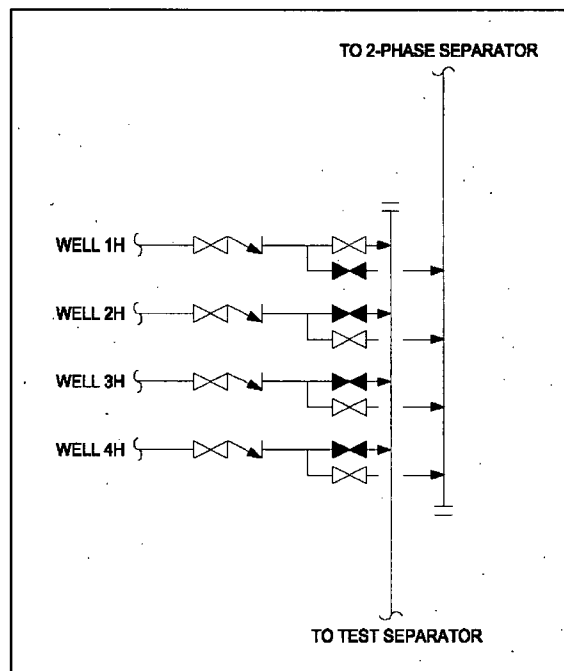

Figure 1: Test/Production Header Diagram
1. Flowlines from producing wells terminate into the test/production header which serves as the inlet to the tank battery. From the header, one well can be put in test while the remaining wells are combined in the production header for separation and storage of produced fluids. The test/production header is illustrated in Figure 1 below. In this diagram, the shaded valves indicate a closed position. Therefore, this illustration shows well "1H" to be in test while the remaining wells are routed to the 2-Phase Separator. Using the valves in the header, any single well can be isolated from the remaining wells and placed into test.